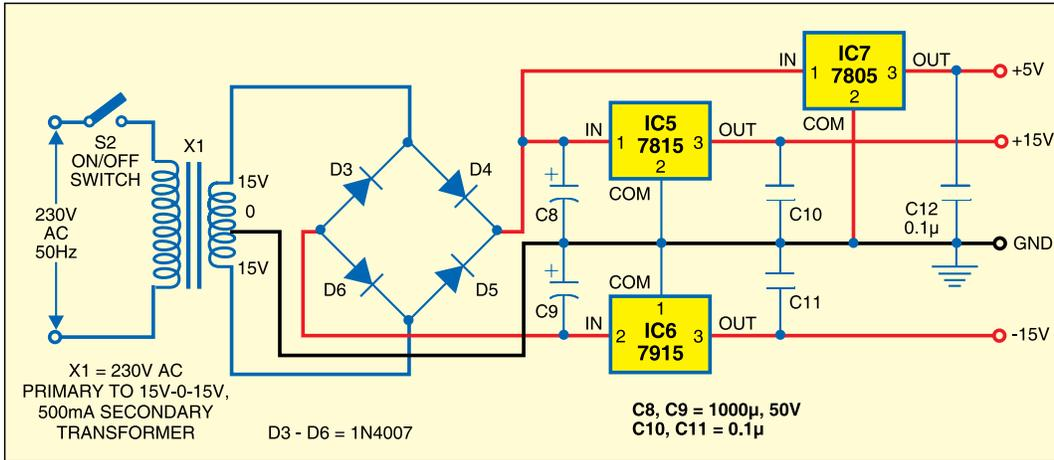

Fig. 5: Power supply circuit for distance meter
**Power supply.** Fig. 5 shows the circuit of the power supply. The 230V AC mains is stepped down by transformer X1 to deliver the secondary output of 15V-0-15V, 500 mA. The transformer output is rectified by a full-wave bridge rectifier comprising diodes D3 through D6, filtered by capacitors C8 and C9 and then regulated by ICs 7815 (IC5), 7915 (IC6) and 7805 (IC7). Regulators 7815, 7915 and 7805 provide +15V, -15V and +5V regulated supply, respectively. Capacitors C10 through C12 bypass the ripples present in the regulated power supply.